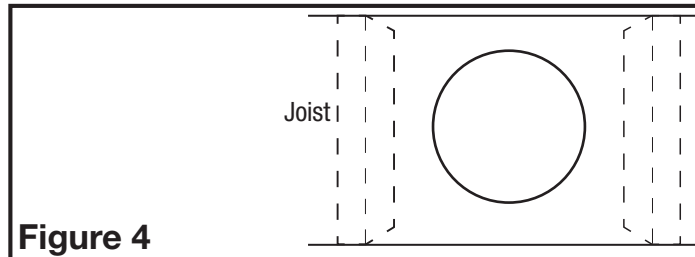

Figure 4
- Determine the location of the round intake assembly. Cut an 8" round hole through the ceiling material being careful not to damage any electrical wires or other utilities (Figure 4).